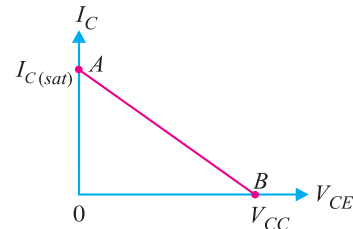

Fig. 18.5
**Conclusion.** The above discussion leads to the conclusion that a transistor can behave as a switch under proper conditions. In other words, if the input base voltages are enough negative and positive, the transistor will be driven between *cut off* and *saturation*. These conditions can be easily fulfilled in a transistor circuit. Thus a transistor can act as a switch. Fig. 18.5 shows the switching action of a transistor in terms of dc load line. The